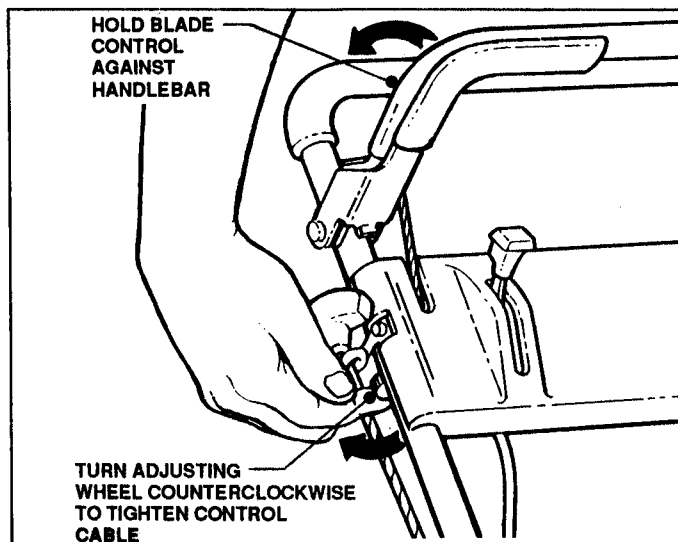

FIGURE 7
4. Reach down with right hand and turn Drive Control Cable Adjusting Wheel counterclockwise two (2) complete turns. See Figure 7.